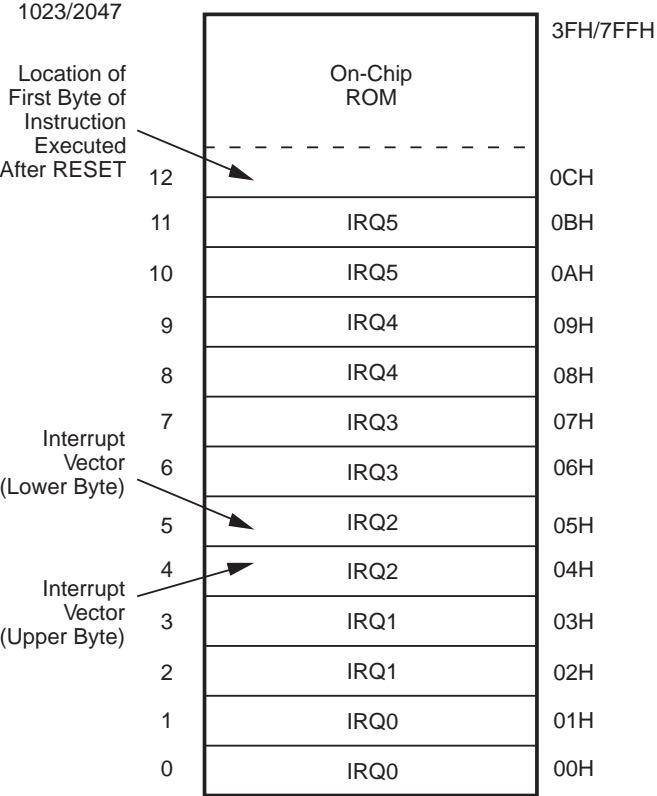

Figure 11. Program Memory Map
**Program Memory.** The Z86E04/E08 addresses up to 1K/2KB of Internal Program Memory (Figure 11). The first 12 bytes of program memory are reserved for the interrupt vectors. These locations contain six 16-bit vectors that correspond to the six available interrupts. Bytes 0-1024/2048 are on-chip one-time programmable ROM.